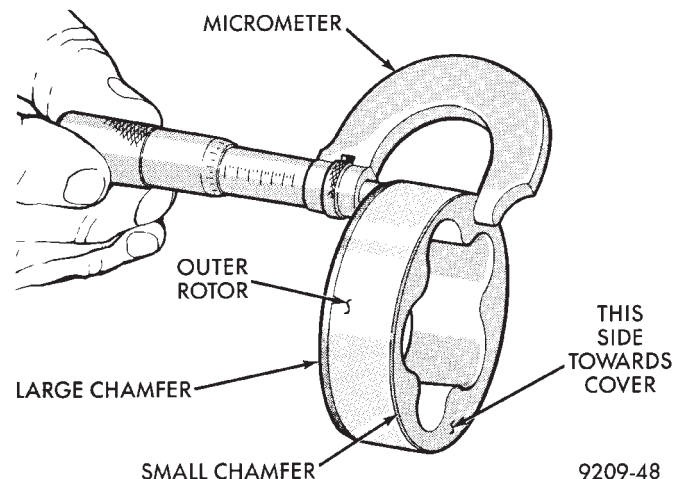

Fig. 9 Measuring Outer Rotor
(3) Thickness: 23.96mm (.9435 inch) minimum. Outer Diameter: 62.7mm (2.469 inch) minimum (Fig. 9).
(4) Install with large chamfered edge in pump body (Fig. 9).